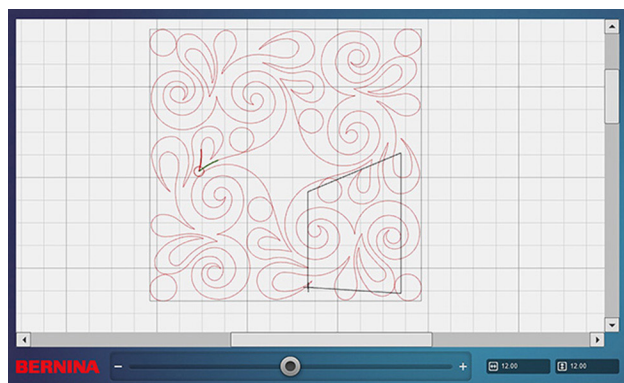

Fig. 21
4. Move the Sewhead around the section of the quilt you would like to mask. Confirm each point by selecting Set on the Sewhead screen. The last point should be on top of the first point to auto close the shape (Fig. 21).